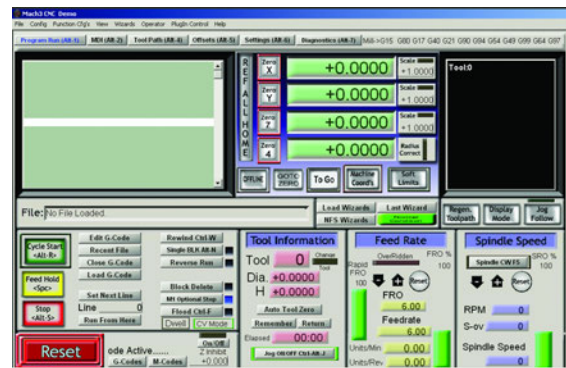

Figure 13-14 *The MACH3 control software*
- **MACH3 for Windows** (Figure 13-14), created by ArtSoft USA; the free-of-charge version of the software has a 500-line G-code limit, while the complete version costs less than \$200.